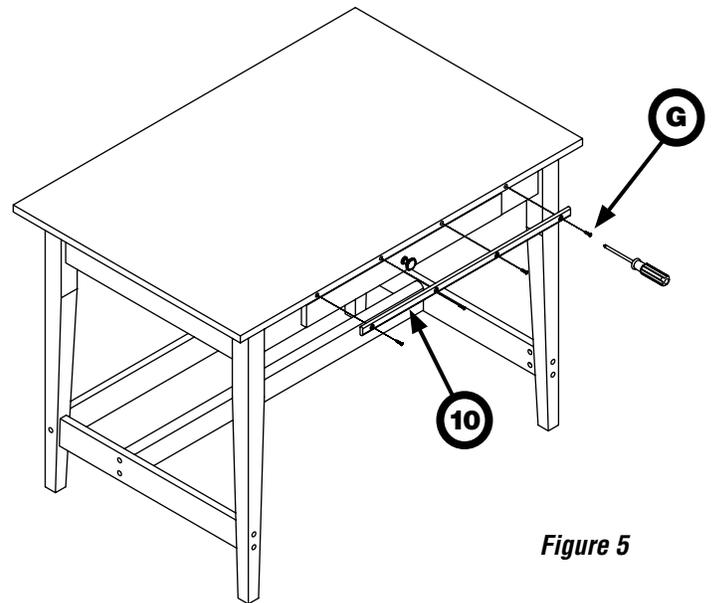

Figure 5
- 4** Choose which position you desire and attach pencil ledge to front edge of tabletop using 1/2" bolts (**G**) into threaded inserts, as shown in *Figure 5*. Tighten firmly using care not to strip.